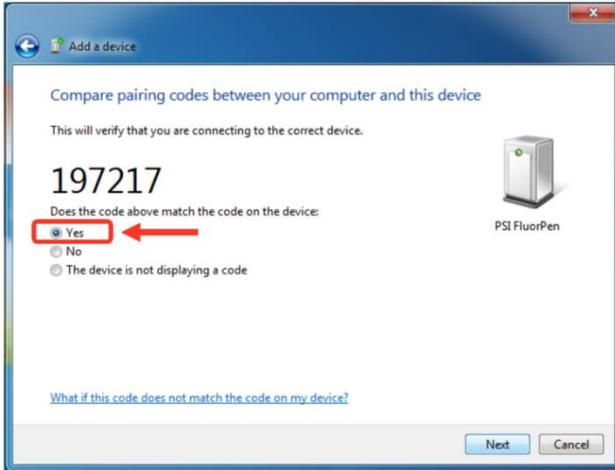

Fig. 15 Bluetooth – pairing verification.
- Select: Yes (Fig. 15). Please note that the FluorPen device does not display the verification number. The verification code is not important for the BT connection.